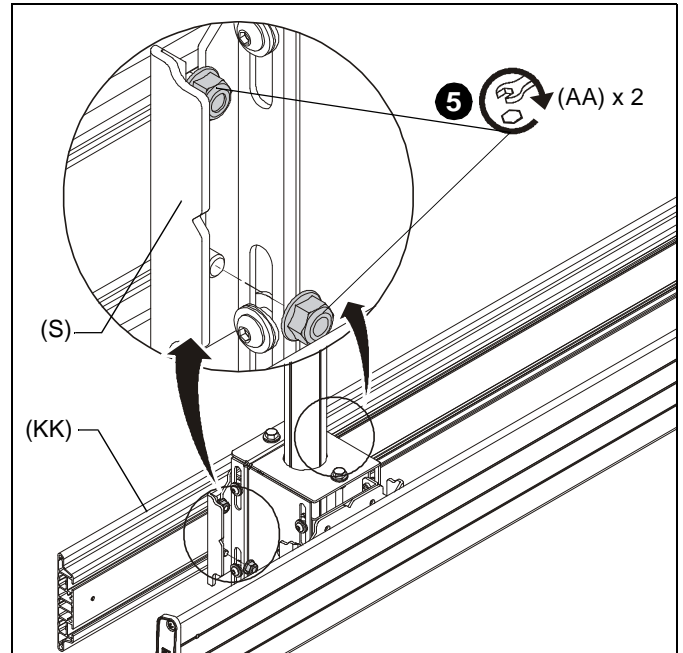

Figure 3
2. Partially fasten one 5/16" lock nut (AA) to each stud on upper T-slot studs.
3. Slide top T-slot studs (DD) with attached lock nuts (AA) down into top openings on add-on heads (S). (See Figure 3)
4. Slide studs on lower T-slot studs (DD) into lower slots on add-on heads (S) while bringing mounting rail against add-on heads.
5. Tighten array head to mounting rail by tightening lock nuts on upper T-slot studs and adding two 5/16" lock nuts (AA) to lower T-slot studs. (See Figure 3)